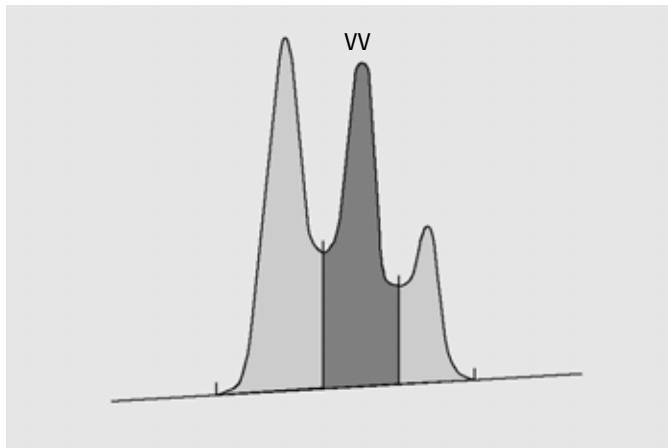

Figure 25 Area Measurement for Valley-to-Valley Peaks
- for valley-to-valley (VV) peaks, the area above the baseline, segmented with vertical dropped lines from tick marks, as in Figure 25 on page 103,